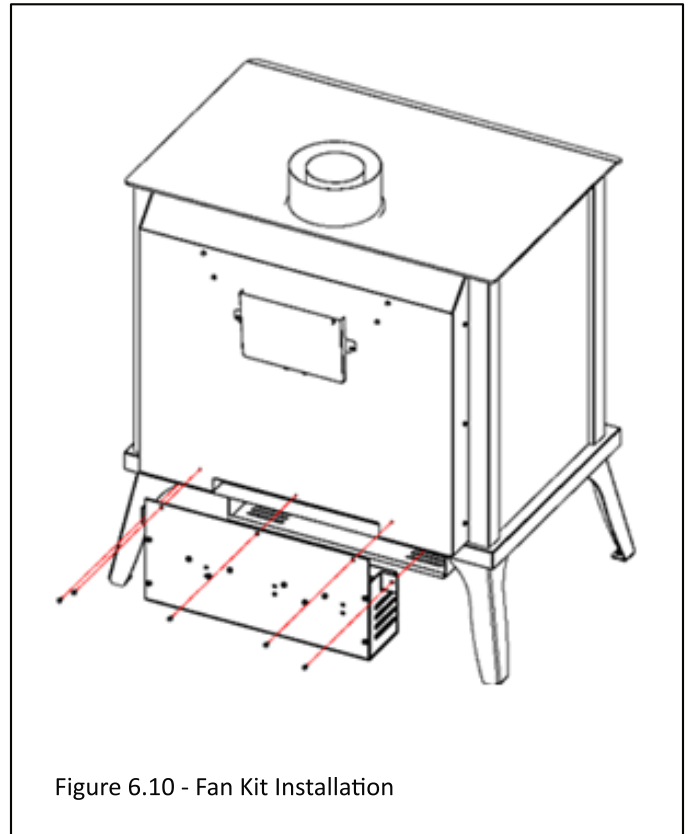

Figure 6.10 - Fan Kit Installation
2. Mount the replacement fan assembly by aligning with existing holes in the back and underneath of unit using the (5) screws previously removed (Figure 6.10).